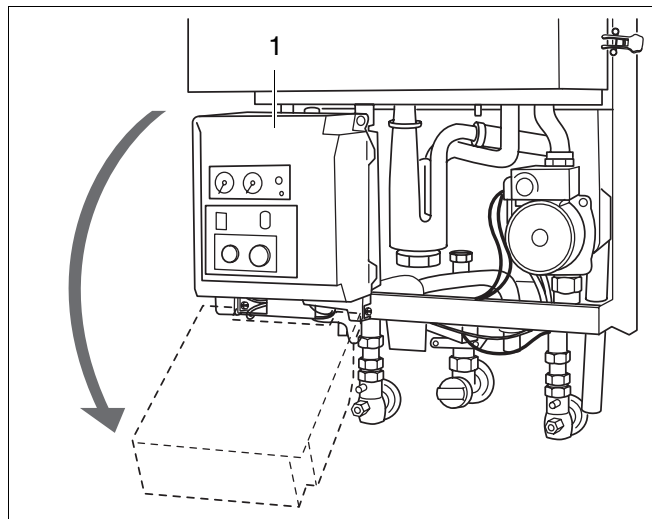

Fig. 51 Swivel UBA housing downwards
- Loosen crosshead screw (fig. 51, item 1) on UBA housing.